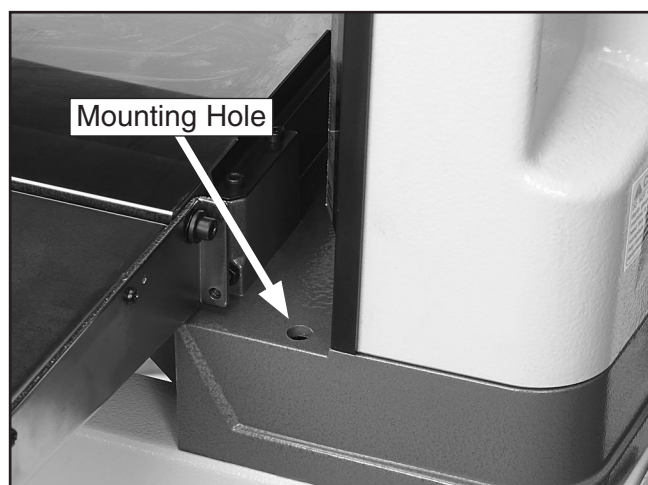

Figure 8. Mounting holes in base casting.
3. Align the mounting holes in the base casting of the planer/moulder with the mounting holes in the stand, as shown in **Figure 8**.